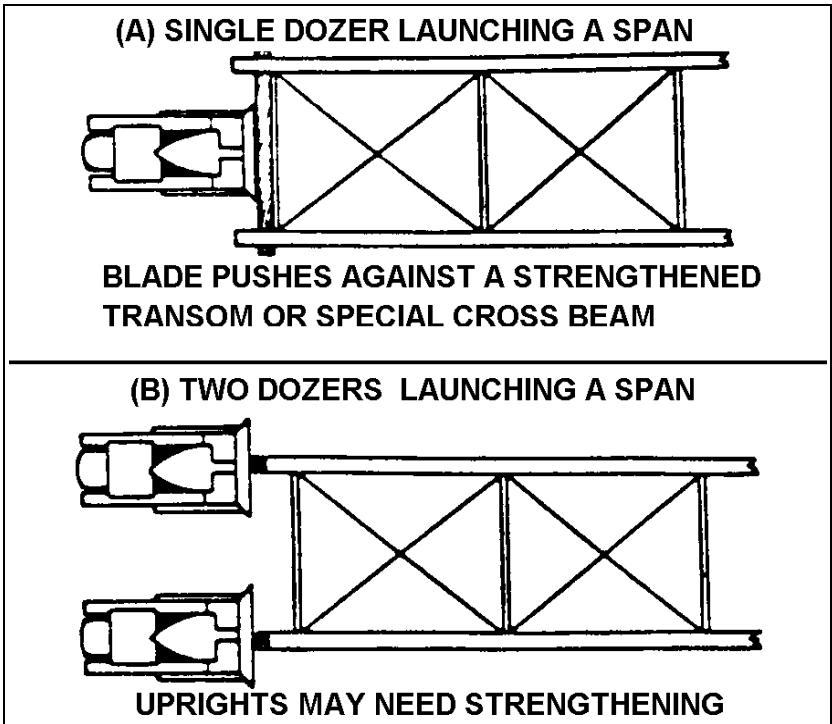
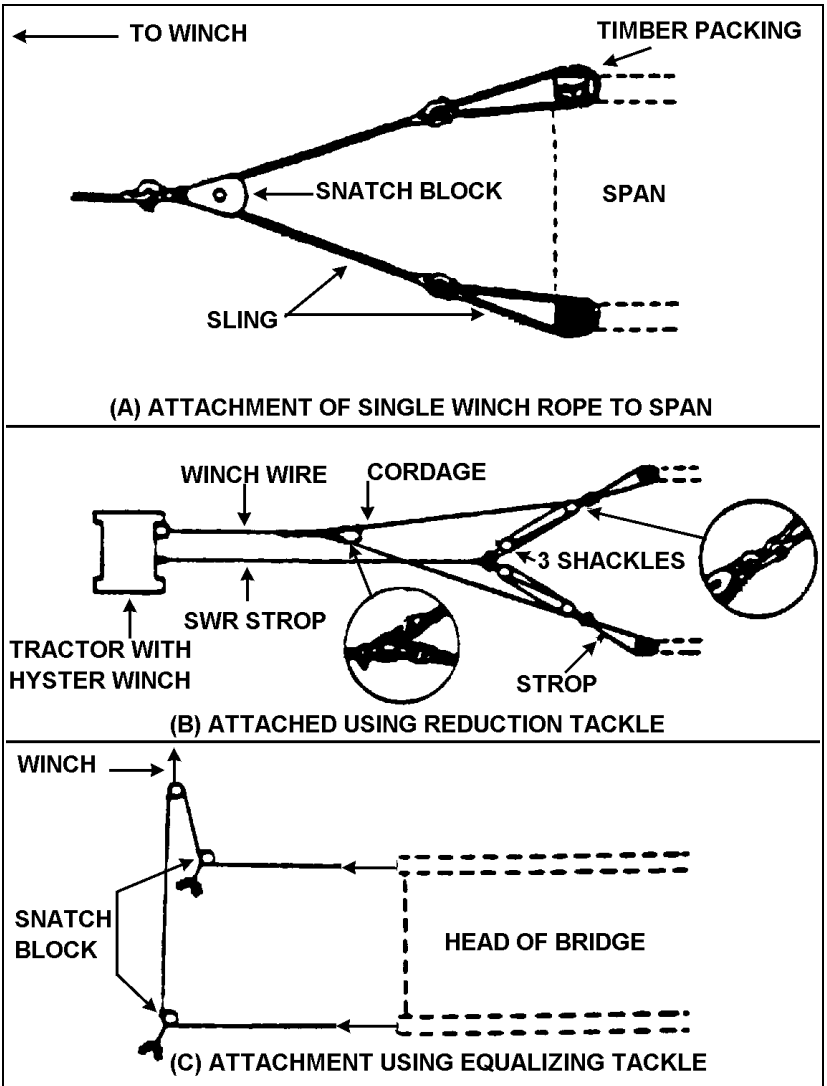

Fig 14-4-3 Launching with Dozers
Fig 14-4-4 Launching Tackles
5. Dozers may be used for launching as shown in Fig 14-4-3. Labourers can also be used if the structure is kept light and the launching plane is horizontal or downhill. Soldiers can act as a readily adjustable counterweight. Winches are used as preventer tackles to assist the labourers, particularly in downhill launches. To avoid any risk of slewing the span, two tackles are used, one on each outer main girder. Winches can be power or hand operated. Fig 14-4-4 shows how the winch rope attaches to the span. When a winch is used as a preventer tackle for a downhill launch observe the following: